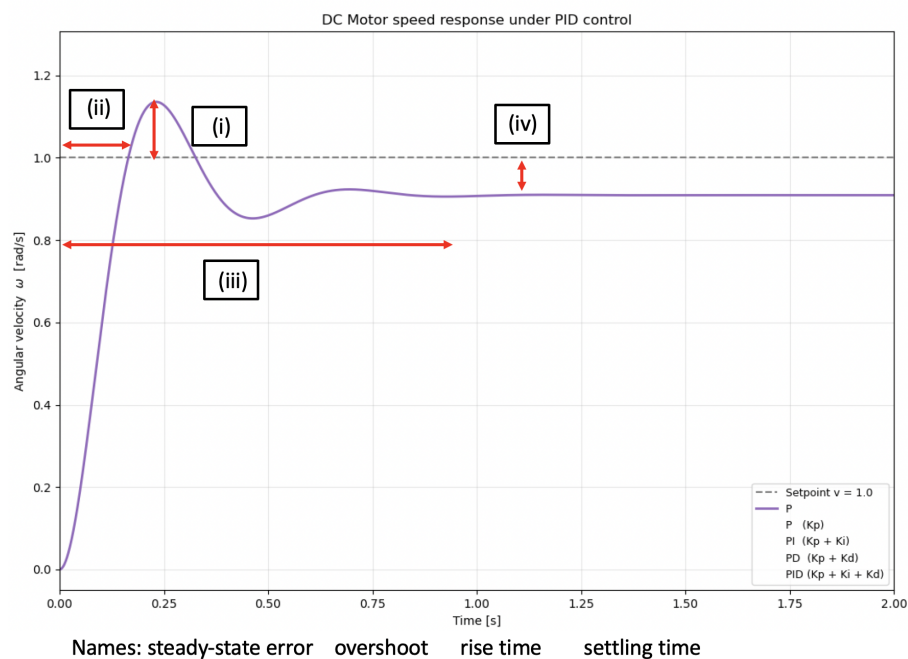

Figure 5: Step response of a controlled system. Match the labels (i)–(iv) to the names.
- (i) Given the step-response plot in Figure 5, match the labels (i)–(iv) to the names in the figure.